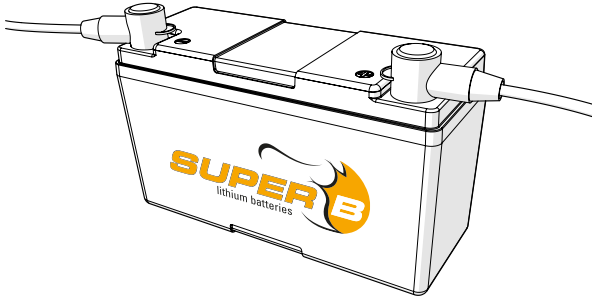

Figure 5. Place terminal covers over the terminals.
- 4. Place the terminal covers over the terminals. (Figure 5).